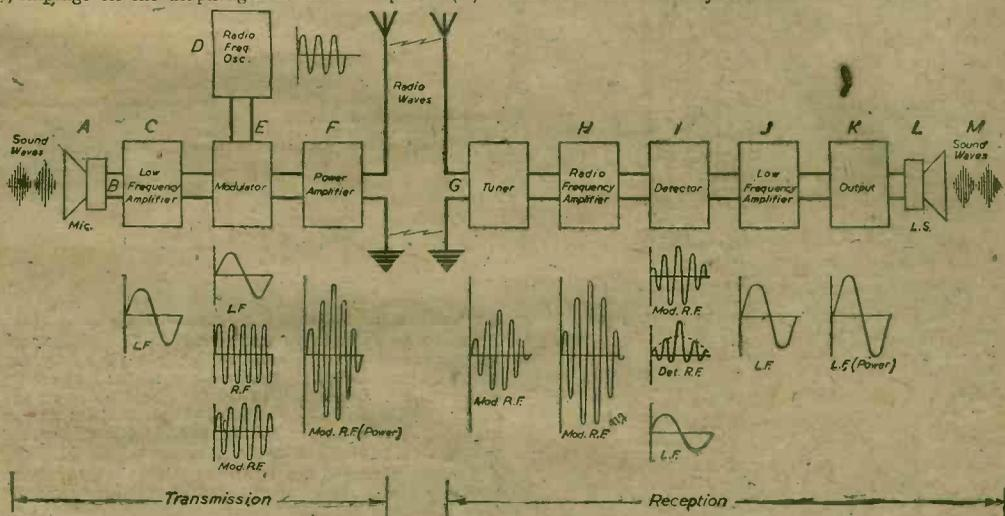
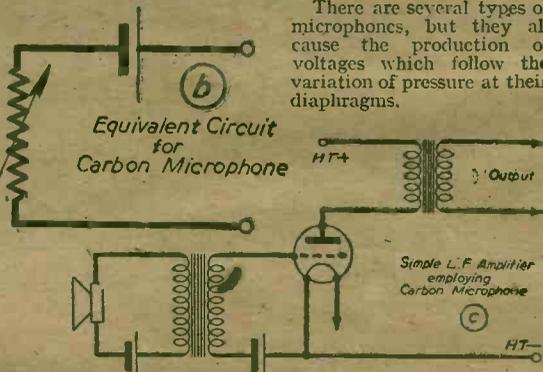

Fig. 31.—The schematic layout of a transmitting and receiving station.
Fig. 33.—Simple microphone, its equivalent circuit and amplifying stage.
By a "complete broadcast system" we are referring to the system whereby the mechanical energy of sound waves is converted to electrical energy, passed through a transmitter, broadcast, received, passed through a receiver and finally used to reproduce sound waves. Fig. 31 is a "block" diagram of the processes involved.
In Fig. 33 (c) the rippling current passes through the primary winding of a transformer, thereby causing alternating voltages to appear across the secondary winding. These voltages can now be fed to an L.F. amplifier as required in Fig. 31 (B).
Fig. 33 (a) shows a simple carbon microphone. Fig. 33 (b) giving the equivalent circuit. As shown, the microphone acts like a variable resistance controlled by sound waves. The compression and rarefaction of the air causes the mica diaphragm to vary the pressure
It can be seen that the average value of the wave must be made to vary. This is done by amplifying the positive half-cycles more than the negative or vice-versa. See waveforms below (l) Fig. 31 and Fig. 35 (b).